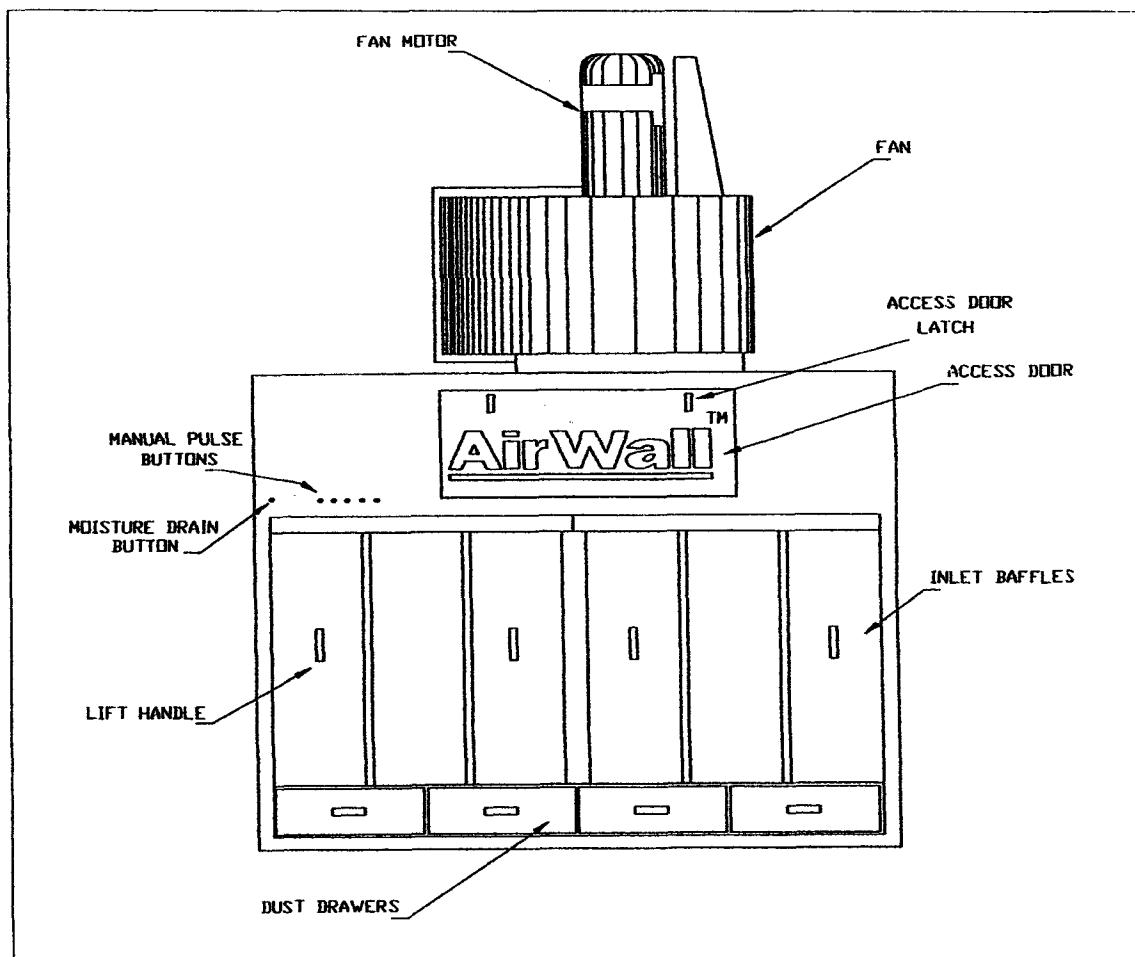

Figure 2-9
The AirWall dust collection/air ventilation system, Figure 2-9, is a patented stand-alone unit that may be installed in an existing blast room or supplied as part of a turnkey EECI Contamination Control Booth (CCB) or blast booth.
1. Momentarily open the accumulator tank moisture drain located behind the inlet baffle on the left side of the AirWall dust collection unit. Refer to figure 2-9.